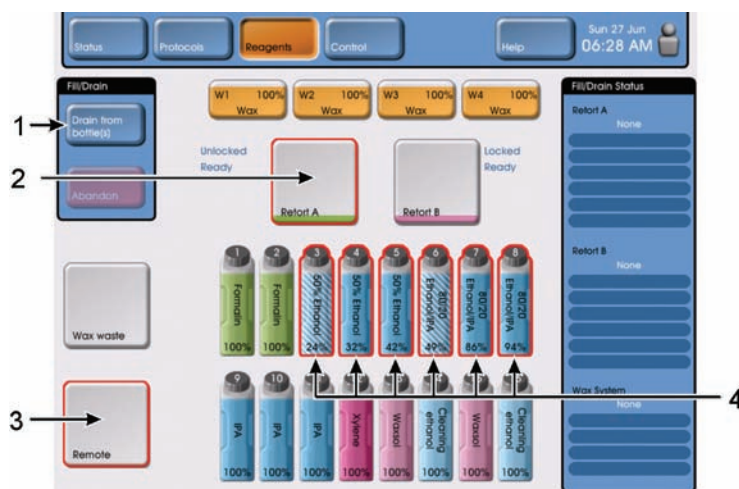

Figure 110: Remote fill/drain setup for draining bottles
1. From the remote fill/drain screen, select the following (see Figure 110):
- The retort you wish to use (2)
- The remote drain line (3)
- The bottle(s) you wish to drain (4).
2. Select the **Drain from bottle(s)** button (1) to begin the drain (see Figure 110).